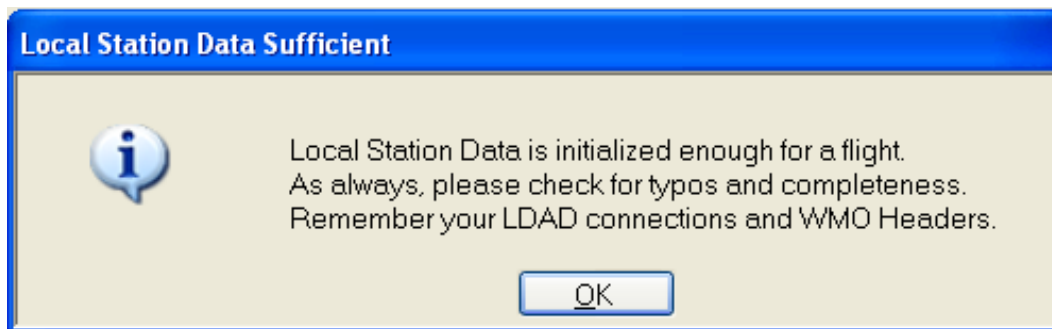

Figure A-22: Local Station Data Sufficient Window
- Click **OK** to close the Station Data Display. The message *Local Station Data Sufficient* window will display (Figure A-22).